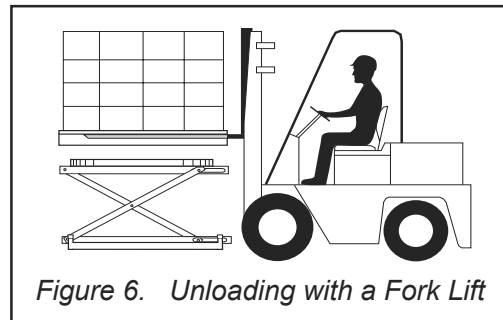

Figure 6. Unloading with a Fork Lift
1. Insert the forks into the evenly loaded pallet, and slowly lift the pallet clear of the top of the unit. See Figure 6.